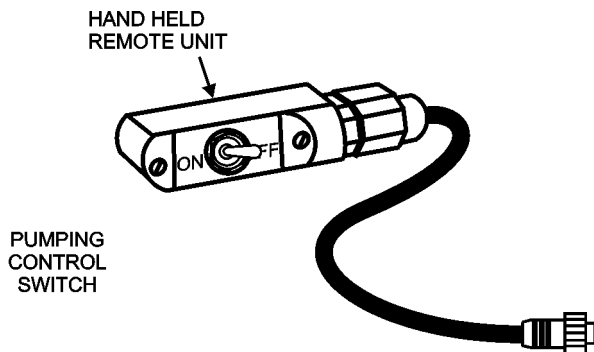

Figure 20. Handheld Remote Control Cable
1. Connect the handheld remote control cable (Figure 20) to the control box.